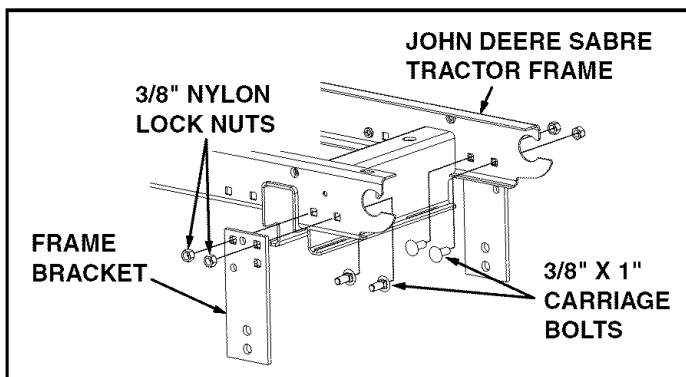

FIGURE 1A
- Figures 1A and 1B show how to attach Frame Brackets to two different John Deere tractor frames. Illustrations for attaching Frame Brackets to other tractors are shown on page 10.